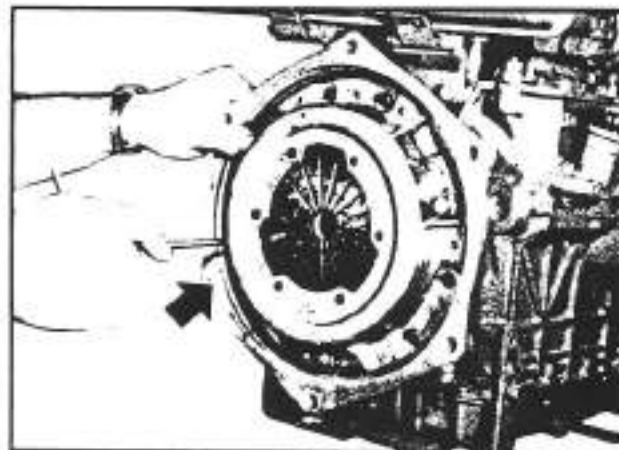

Fig. 3-1. Removal of the spring disk
- m. This operation does not require any particular knowledge. It is only necessary to remove the six bolts which hold the spring disk in place (see figure 3-1).